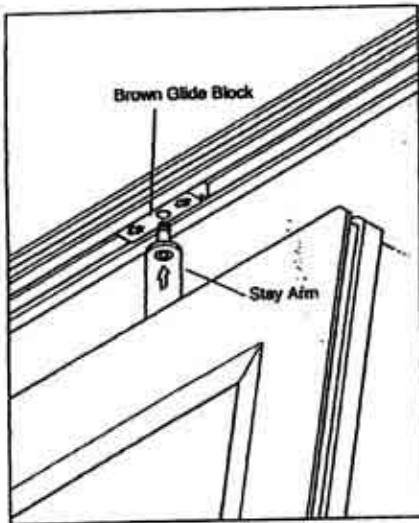

Figure 5-15. Installing the Stay Arm
- 5.8 Locate the pin on each stay inline with the opening on each glide block. Press upwards with your thumb on the underside of the stay arm and snap the pin into the glide block. See fig. 5-15.